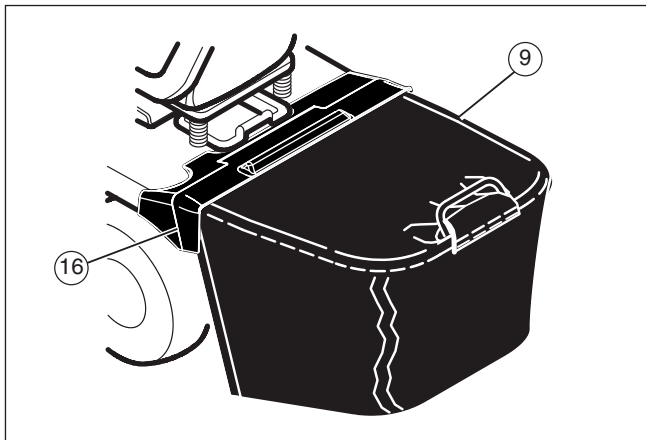

Figure 10
5. Lower the grass bag (9) until the bottom is against the rear plate (see **Figure 10**).
7. Lower the rear bagger cover (16) until it rests on the grass bagger assembly (see **Figure 10**).